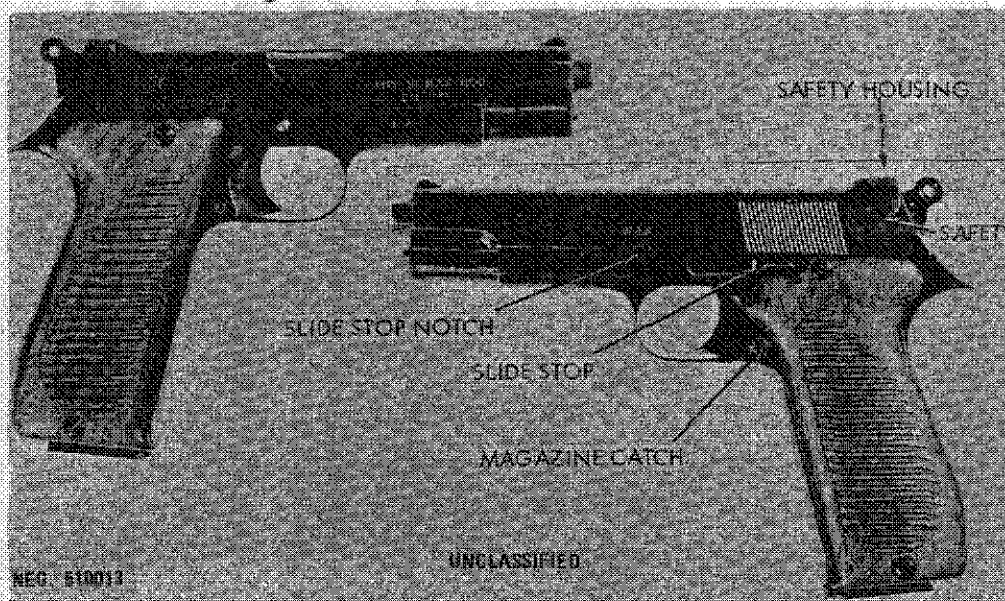

Figure 14. French Model 1950 pistol.
The French Model 1950 (fig 14) pistol is used almost exclusively by the French Army and the armies of former French colonies. It can be readily identified by its general resemblance to the US M1911 A1 pistol and the marking "M.A.S. 1950 cal 9-mm" on the right side of the slide and "M.A.C." or, less commonly, "M.A.S." on the left side of the slide. The prominent safety housing (fig 14) is also a prime recognition feature. The Model 1950 pistol has an automatic safety device that prevents the pistol from being fired unless the magazine is in place. The Model 1950 pistol fires 9x19-mm cartridges (sec V).
a. Remove the magazine by pressing the magazine catch (fig 14). Load the magazine with nine cartridges as described in paragraph 3b. Insert the loaded magazine into the pistol until the magazine catch snaps into place and retains the magazine.
c. To render the pistol safe, rotate the safety (fig 14) upward (to a horizontal position). If desired, the hammer can be lowered by pressing the trigger. The Model 1950 will not fire because the safety blocks the hammer from striking the firing pin.
e. Remove the magazine by pressing the magazine catch (fig 14), or by pulling the slide slightly rearward and releasing. The magazine must be reinserted before pressing the trigger to lower the hammer.
slide stop (fig 14), and pulling the slide rearward. Ease the slide forward until it is caught by the slide stop. Inspect to insure that no cartridges are in the barrel or slide. Pull the slide slightly rearward and ease it forward. Insert the magazine and, while holding the hammer to ease it forward, press the trigger.
b. Pull the slide rearward until the slide stop (fig 14 and 15) can be pushed up into its notch in the slide. Hold the slide and pull the slide stop out to the left. Ease the slide forward and pull it off the receiver.